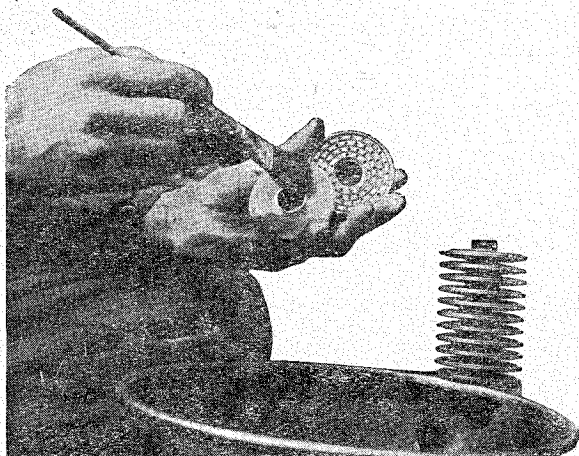
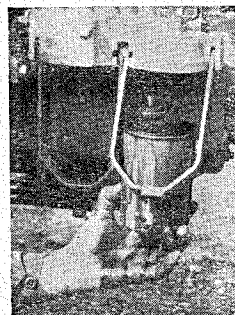

Fig. 37.
Fig. 36.
4. Proceed in the same manner with the other bowl (see Fig. 36) and then use a clean rag to wipe both bowls dry. Using a paint brush wash the filter elements carefully so as not to damage them (see Fig. 37).